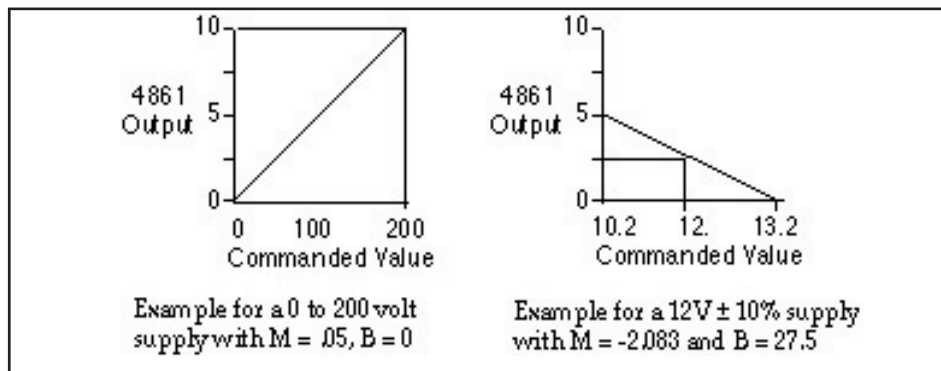

Figure 2 Output Voltages for different Scale Factors and Offsets
Figure 2 shows two examples of output voltage scaling by changing the slope (M) and offset (B) values. Similarly, measured voltages may be scaled to provide actual values for divided inputs or converted to other units when measuring sensor signals. The scaling values may be saved in the 2361A's Flash memory.